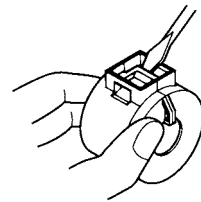

Figure 13-1.
■ The ferrite core is normally packed so it is open, as shown in Figure 13-2. If you find that the ferrite core is not open, use a pointed object to pry the plastic lock of the ferrite core apart (Figure 13-1.). When you do, take care not to damage the ferrite core or the plastic lock.